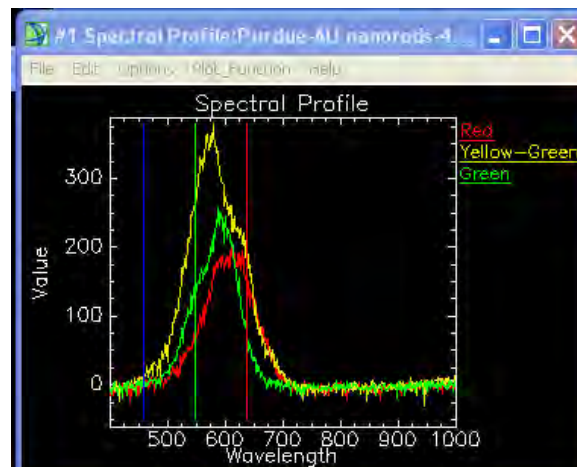

Figure 7. Spectral profiles from three image features plotted together
4. You may end up with three very distinct curves (see Figure 7)